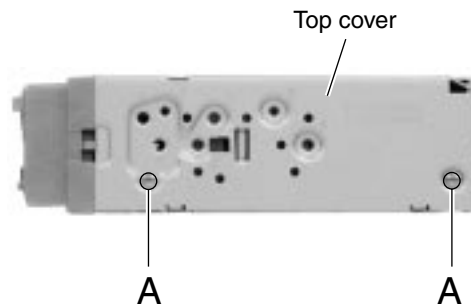

Fig.1
■ Removing the top cover (See Fig.1 to 3)